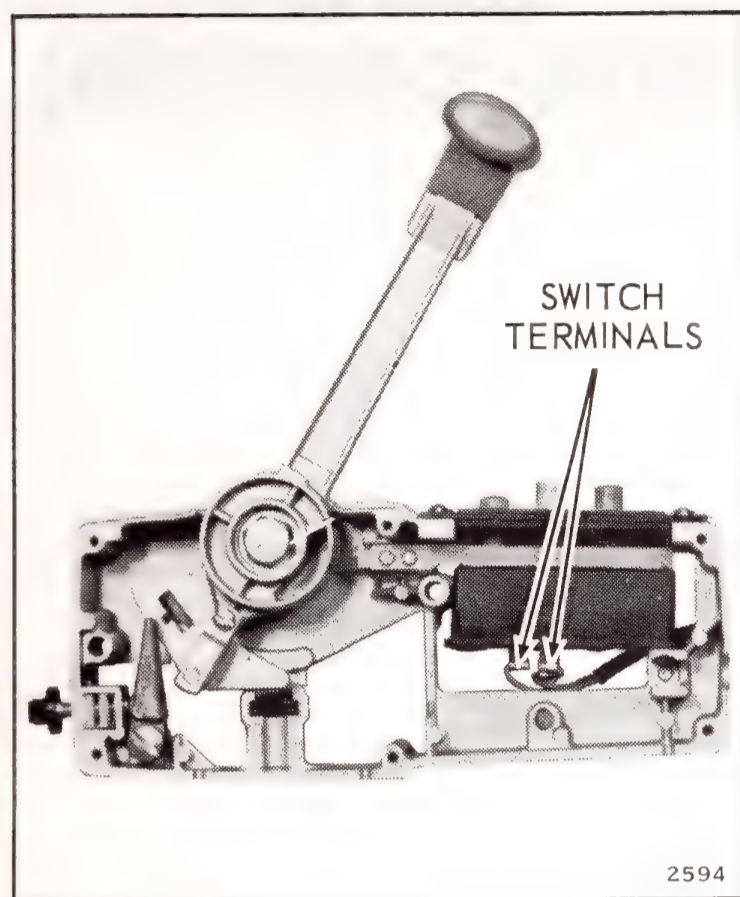

Figure 8-1. Remote Control with Cover Removed
The remote control is a simple mechanism and will be found to be relatively trouble-free. See Figure 8-1. It may occasionally be necessary, however, to disassemble the remote control to clean off salt water deposits, or to check the operation of the pushbutton switch. Proceed as follows:
- a. Remove side plate. Disconnect shift cable from switch terminals. See Figure 8-1.